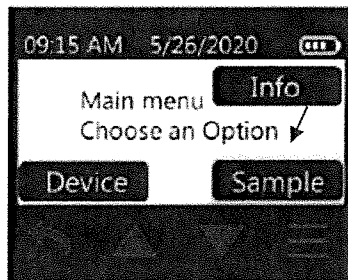

Figure 25. Sample Button
1. Press the main menu button (three Horizontal lines below the display) to get to the Main Menu and touch Sample (Figure 25).